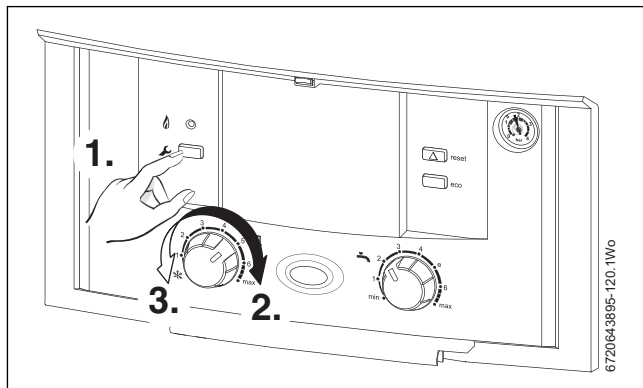

Fig. 71 Setting the boiler to minimum or maximum
1. Press and hold down the service button for more than 10 seconds until illuminated (refer to figure 71).
2. Turn central heating control to maximum (refer to figure 71).
- 3. Set the central heating control to minimum (refer to figure 71).